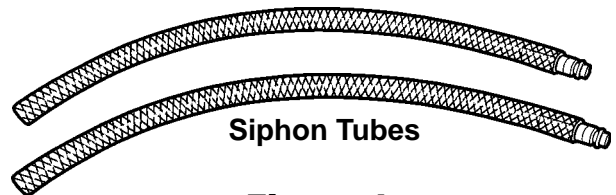

Figure 4
2. Two sizes of siphon tubes have been included with the 75700 unit. See Fig. 4. Select the siphon tube which most closely matches the size of the coolant overflow barb on the vehicle's radiator neck.